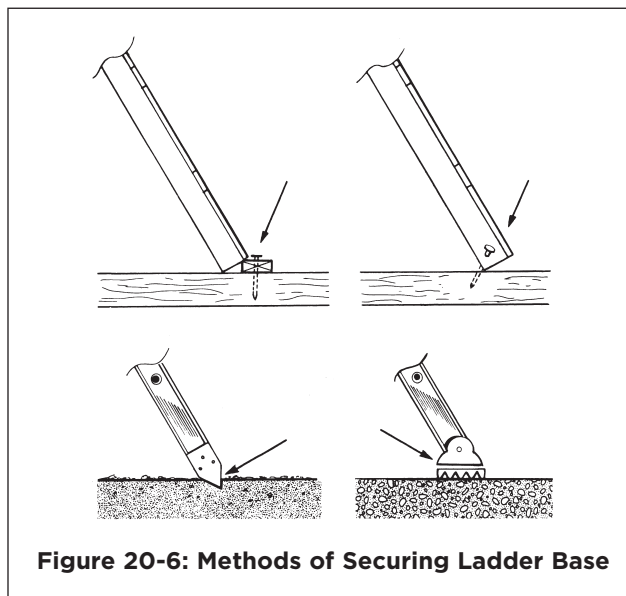

Figure 20-6: Methods of Securing Ladder Base
- Secure the base of the ladder should be secured against accidental movement. Use a ladder equipped with non-slip feet appropriate for the situation, nail a cleat to the floor, or otherwise anchor the feet or bottom of the side rails (Figure 20-6).
Finally, a large number of incidents occur because workers use straight ladders that are not secured. Site supervisors must rigidly ensure that ladders are either firmly secured or held in place by a second worker (refer to Figures 20-6 to 20-8).